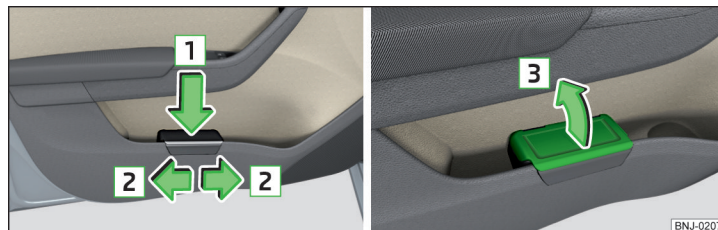

Fig. 78 Waste container: inserting and moving/opening
- Push the waste container to the back in the direction of the arrow **1** » Fig. 78.
- Remove the waste container in the opposite direction to the arrow **1** » Fig. 78.
- Remove the cover in the direction of arrow **3** » Fig. 78.